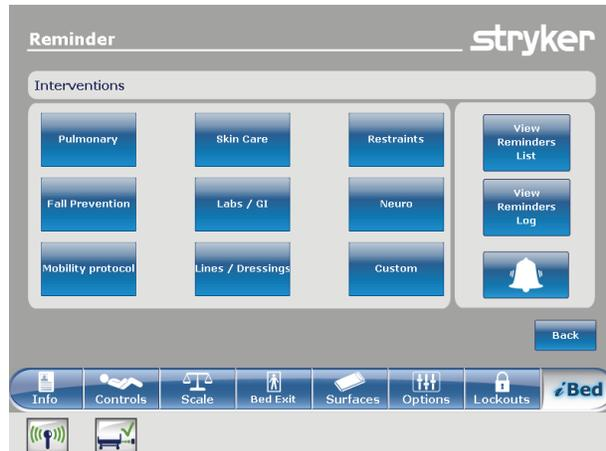

Figure 102: Reminder interventions
To return to the iBed main menu, tap **Back** (Figure 102 on page 92).
2. Tap the intervention group (Figure 102 on page 92).